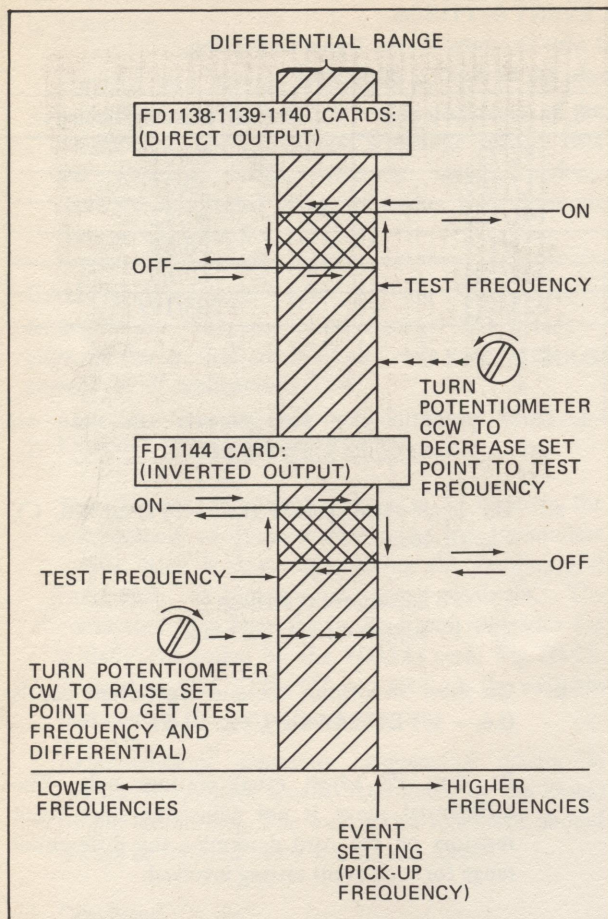

FIG. III-53. SETTING DIRECT AND INVERTED SPEED EVENTS.
3. Procedure — Refer to Fig. III-53, Upper Portion.